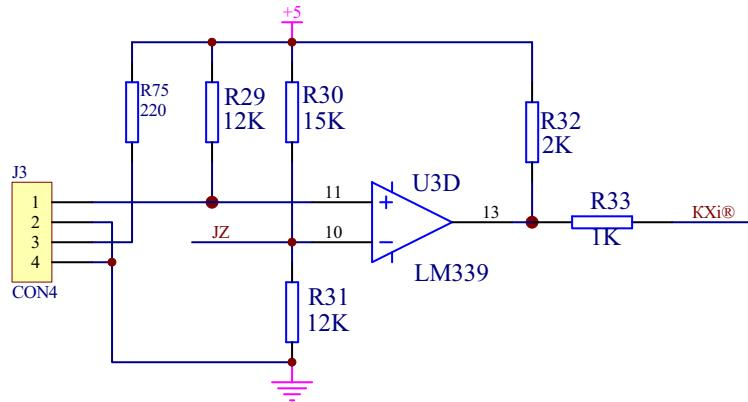

Fig.22A Stacker Sensor Circuit Diagram
### (1) OLD PRO85,PRO85U Circuit (Fig.22A)